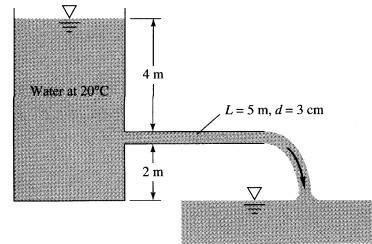

Fig. P6.49
6.49 The tank-pipe system of Fig. P6.49 is to deliver at least $11 \text{ m}^3/\text{h}$ of water at 20°C to the reservoir. What is the maximum roughness height ε allowable for the pipe?